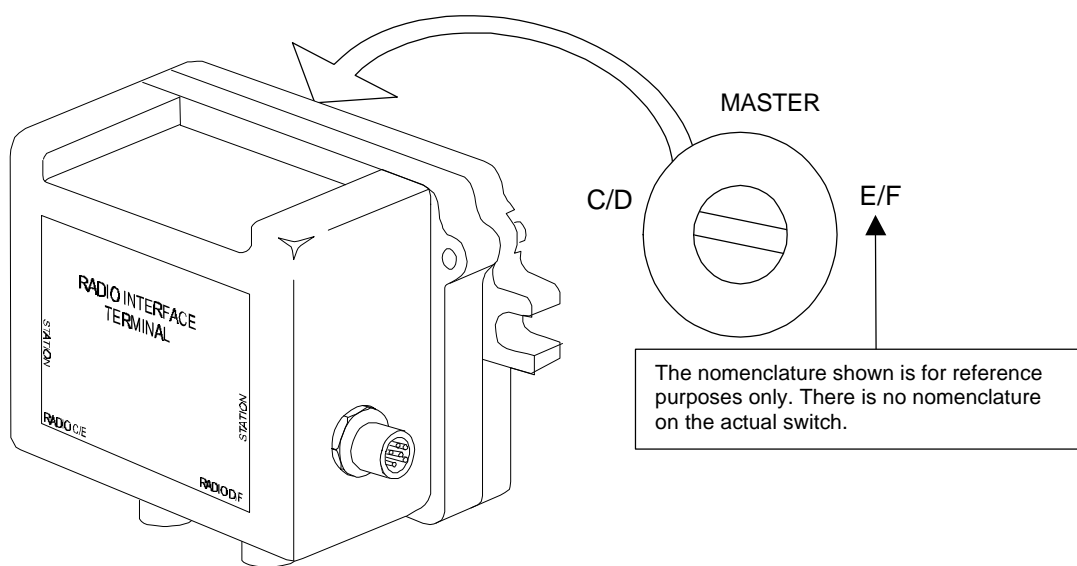

Figure 2-38. RIT Radio Selection Switch
2.7. RIT RADIO SELECTION SWITCH SETTING PROCEDURES (FIG. 2-38.)